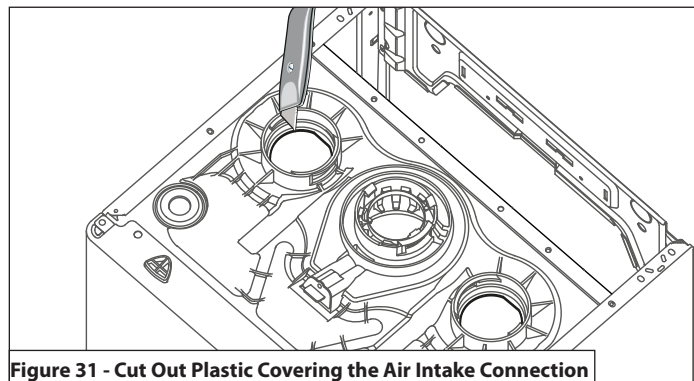

Figure 31 - Cut Out Plastic Covering the Air Intake Connection
**Follow the steps below to install air intake pipe into the boiler air intake connection. See Figure 31 for additional details.**
Select an air intake connection (left or right of the exhaust vent collar). See Figure 31.
- Using a utility knife, cut out the plastic covering the air intake connection from the side chosen. **NOTE: DO NOT CUT OUT BOTH SIDES!** See Figure 31.